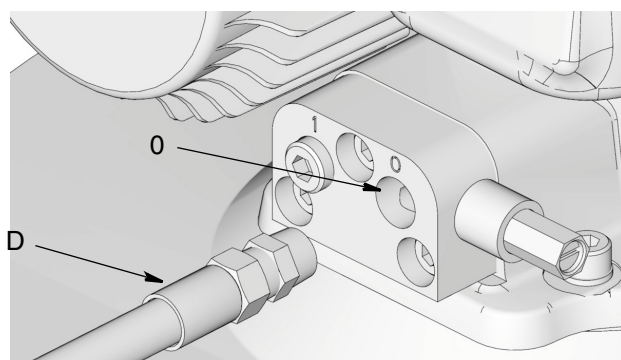

FIG. 51: Lubricant Outlet Connection
29. Connect the timer/controller (F) (user supplied, if used).
30. Connect High Pressure Lubricant Supply Line (D) to the Lubricant Output Connection (O) (FIG. 51) on the Vent Valve or Manifold.